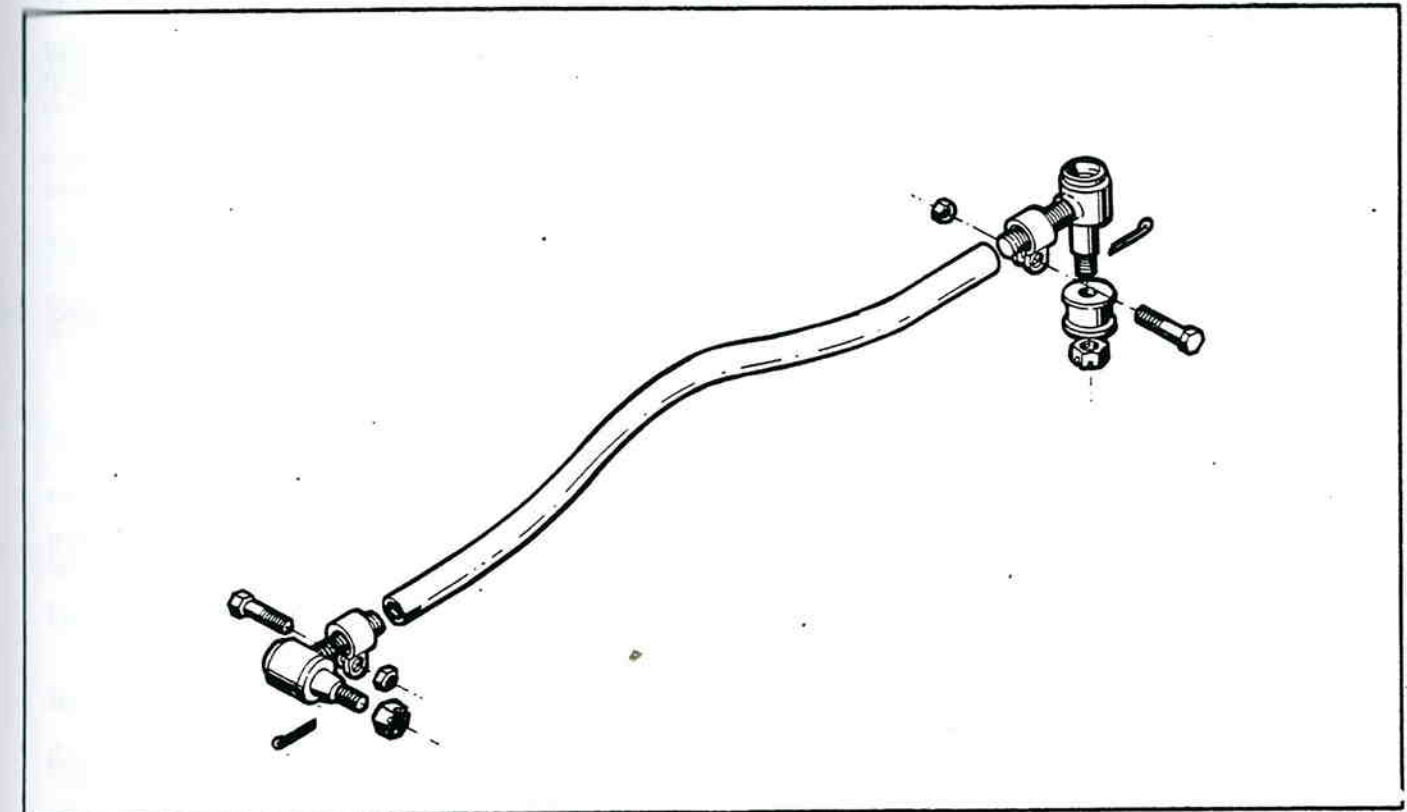

Figure 11-110. Drag Link.
1. Refer to figure 11-110. Remove the cotter pins and castle nuts from the drag link ends.